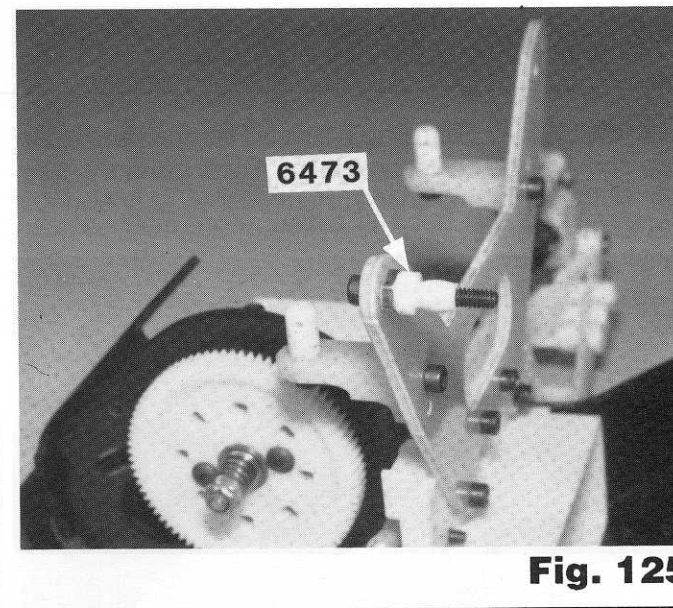

**Fig. 123**
□ **Figs. 123 & 124** From Bag 7-1 take one of the long #7420 4/40 x 5/8" Special SHCS screws that has threads on the end only. Slip the shaft end of the right hand front shock into the slot of the front A-arm, as shown. make sure the flat flange of the steel ball is towards the rear. Install the screw in the direction the arrow shows. Do the left hand side.